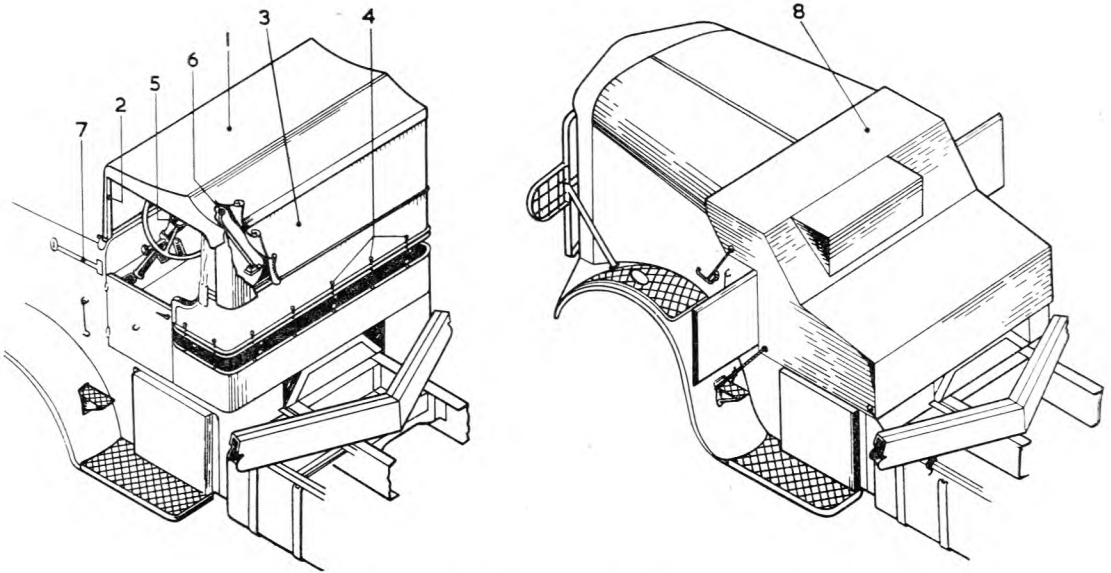

Fig. 15. Sequence of operations for dismantling cab
Removal of cab (fig. 15)
- (6) Place the gear lever in the position where it is furthest towards the front of the vehicle.
- (7) Fold the driving mirror against the bonnet.
- (8) Hook both doors open, fit the cover, and lash down as shown in fig. 15.